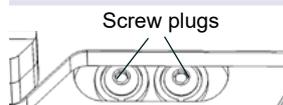

Fig.24: Screw plugs of the cooling fluid reservoir
- Loose the screw plugs of the cooling fluid reservoir (→ fig. 24).